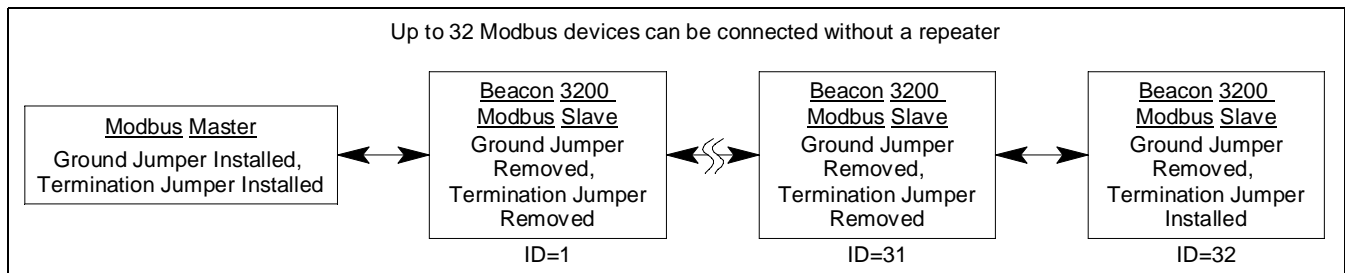

Figure 22: Jumper Configuration
2. Configure the ground and termination jumpers (location shown in Figure 16) as shown in Figure 22.